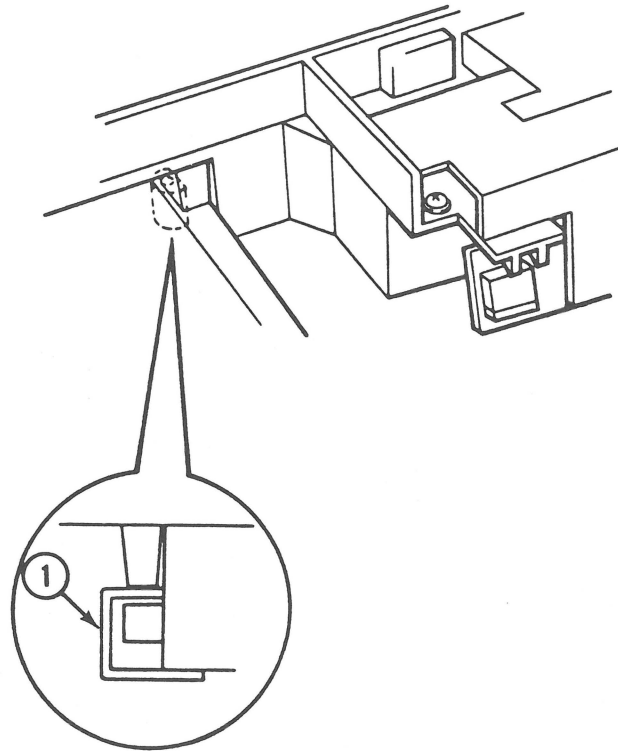

FIGURE 14
5. Slip the left side of the optical block under the left rail while making sure that the block engages under the rail (Figure 14, #1).